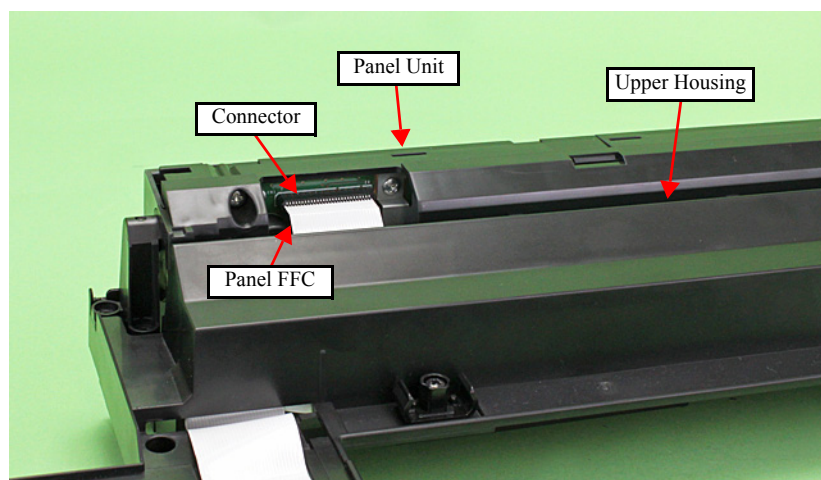

Figure 9-27. Removing the Panel Unit (3)
3. Disconnect the Panel FFC from the connector on the Panel Unit. (See Fig. 9-27.)